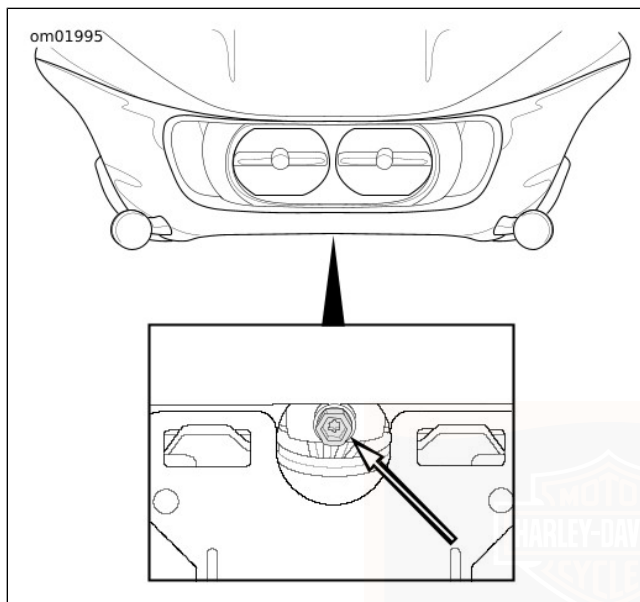

Figure 96. Headlamp Adjuster: FLTRU, FLTRX, FLTRXS
3. **Frame-mounted fairing models:** See Figure 96.